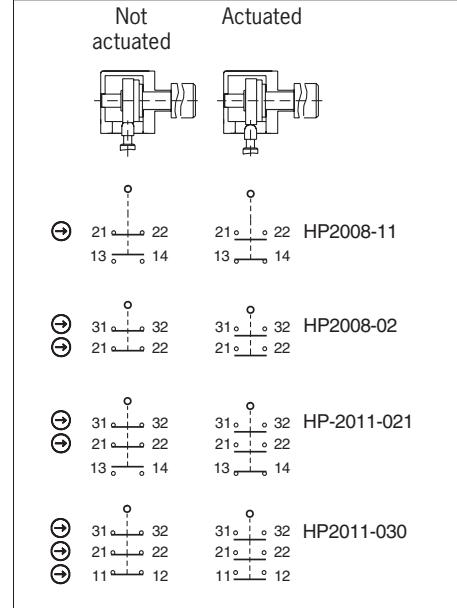

Fig. 2: Switching elements and switching functions
- For pin assignment see Figure 2.